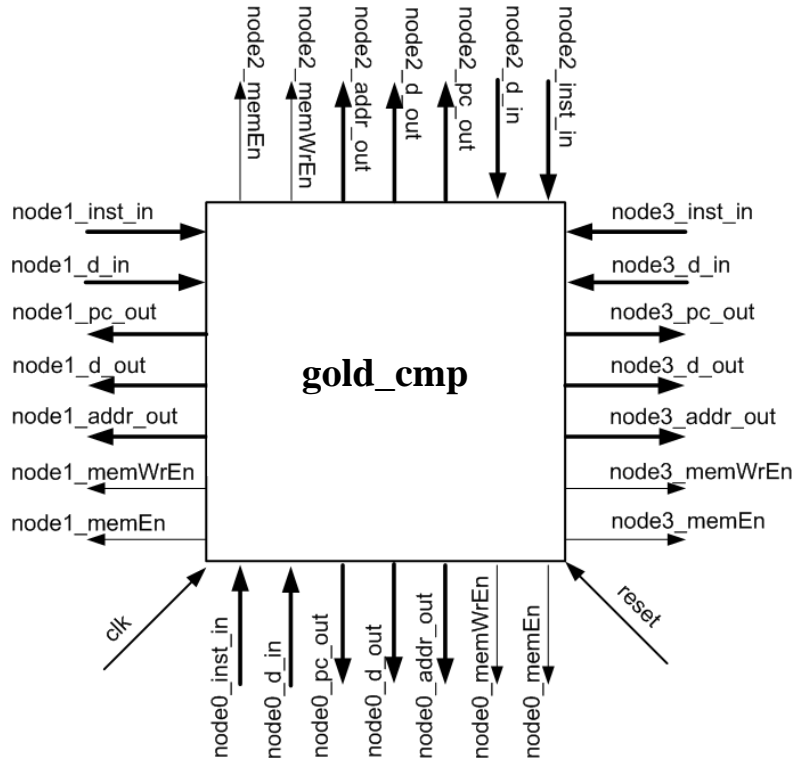

Figure 1: Top Level gold\_cmp module.
1. Modify the I/O port of your Gold CMP top module according to Figure 1. The new version removes the signals used for testing in Project Part 3.